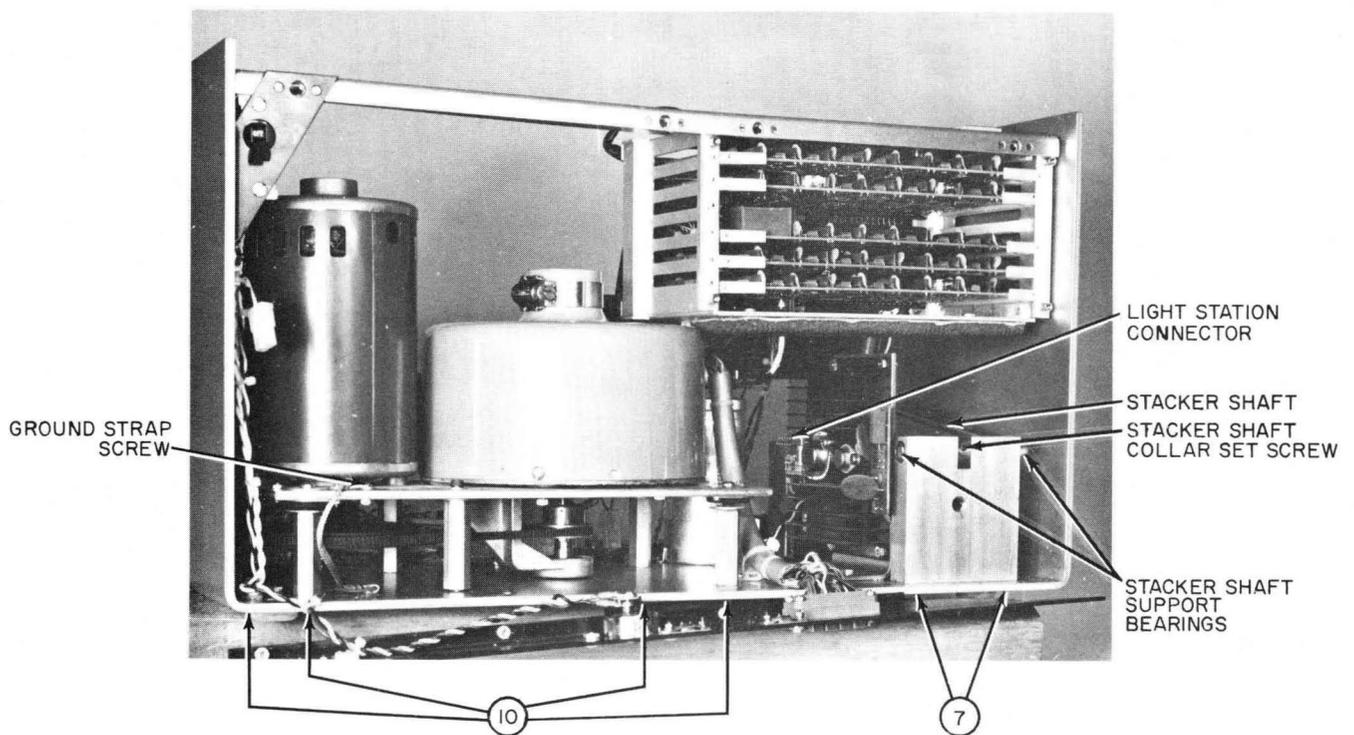

Figure 26. Rear View, Cover and Rear Connector Panel Removed
5. Using a 5/16 Allen wrench, LOOSEN stacker shaft collar set screw, figure 26.
6. Remove two 8 x 32 pan head screws (7) from mainframe holding stacker shaft support casting, figure 26.
2. Disconnect light station from power supply, figure 26.
14. Remove screw holding ground strap to subframe, figure 26.
15. Remove four Phillips head screws (10) located on underside of mainframe, figure 26.